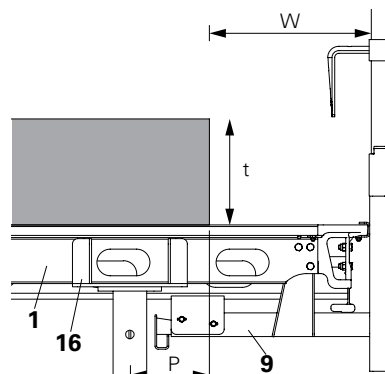
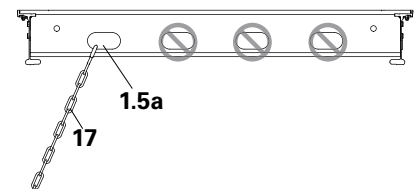
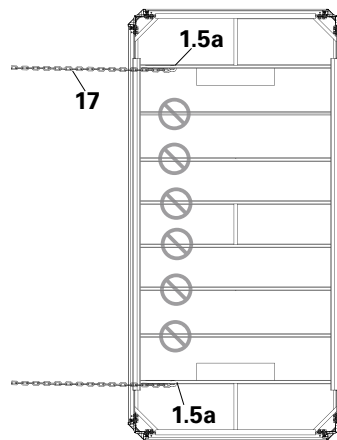
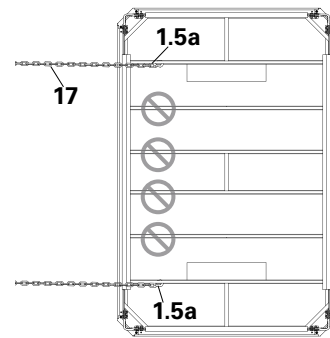

Fig. A10.06a
Fig. A10.07
Fig. A10.08
Fig. A10.09
Plan the projection of the slab P (from the prop center to the slab edge) and the width of the working area W in accordance with (Fig. A10.06a) and (Tab. A10.01)
Plan the projection of the slab P (from the prop center to the slab edge) and the width of the working area W in accordance with (Fig. A10.06a) and (Tab. A10.02)
1. Install the panel ADP (1) along with guardrail holder ADG (9). (Fig. A10.06a)
2. Attach crosshead ADC (16) with prop to support the panel ADP (1).
3. Secure the cantilever using anchor chain 3.0 kN (17). (Fig. A10.06a) Attach anchor chain (17) only on the first slot (1.5a) provided on the outermost cross strut C of the panel ADP (1) (Fig. A10.07)
Use two no. of chains per panel as shown in illustration. (Fig. A10.08 + Fig. A10.09)
Do not attach the anchor chain 3.0 kN (17) on any place other than the first slot (1.5a) provided on the outermost cross strut C of the panel. (Fig. A10.06a + Fig. A10.08 + Fig. A10.09),